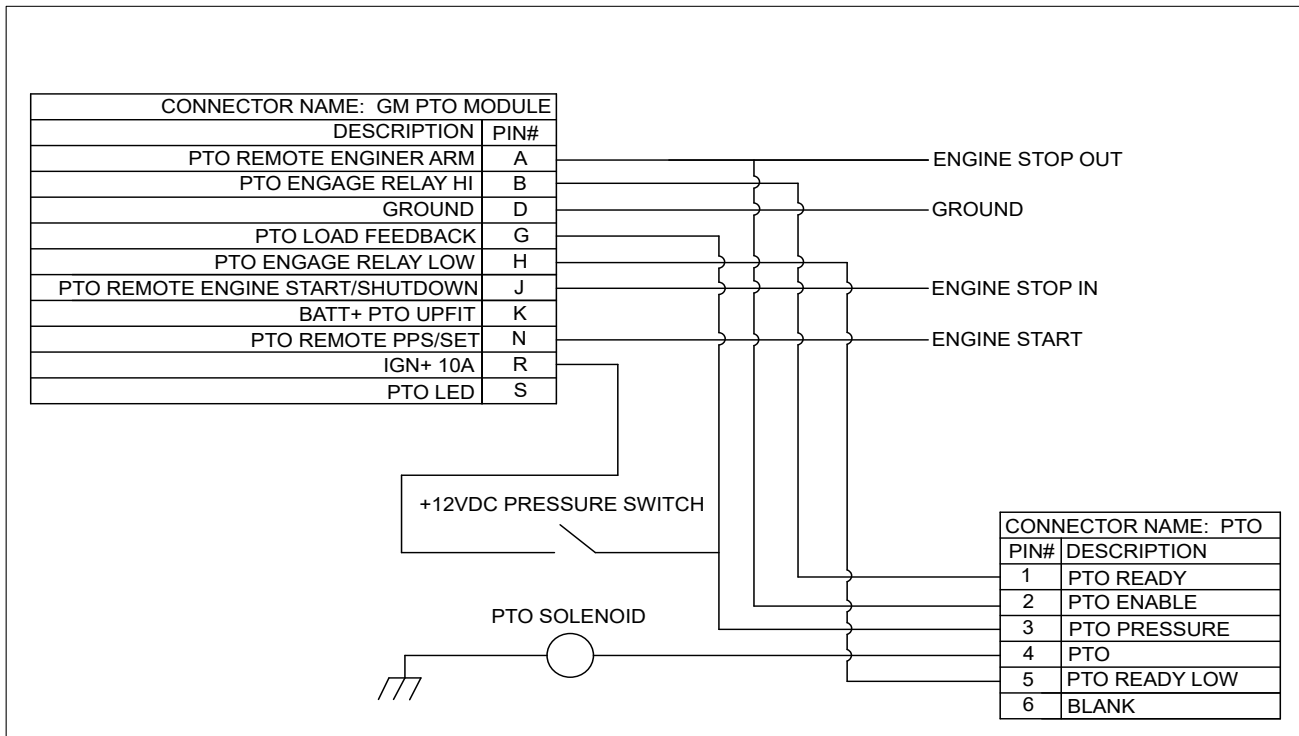

Figure 19 - Chevy Wiring Schematic
7. Cut wire coming from PTO solenoid on PTO harness supplied by PTO manufacturer. Connect wire to pin 4 ("PTO") on PTO connector. Reference Figure 19 for pin location on connector. For Chelsea PTOs, do not cut connection between relay pin 87 and pressure switch.